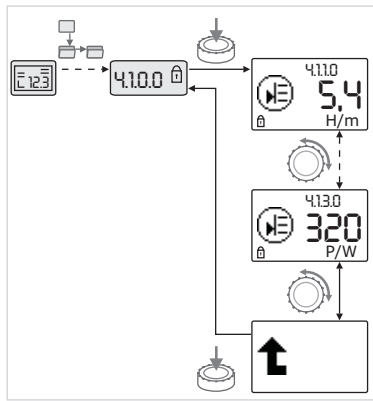

Fig. 39: Calling up information
- Turn the operating button to access the “Information” menu elements in the current sub-menu (see Fig. 39). For an explanation of the settings represented by the symbols, see the table in chapter 8.7 “Menu elements reference” on page 104.